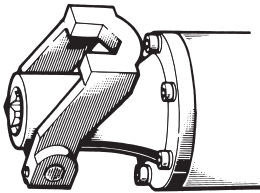

Fig. 2
- (1) With the retainer directed backward, insert the tool shank into the hole on the front cover. (Fig. 2)